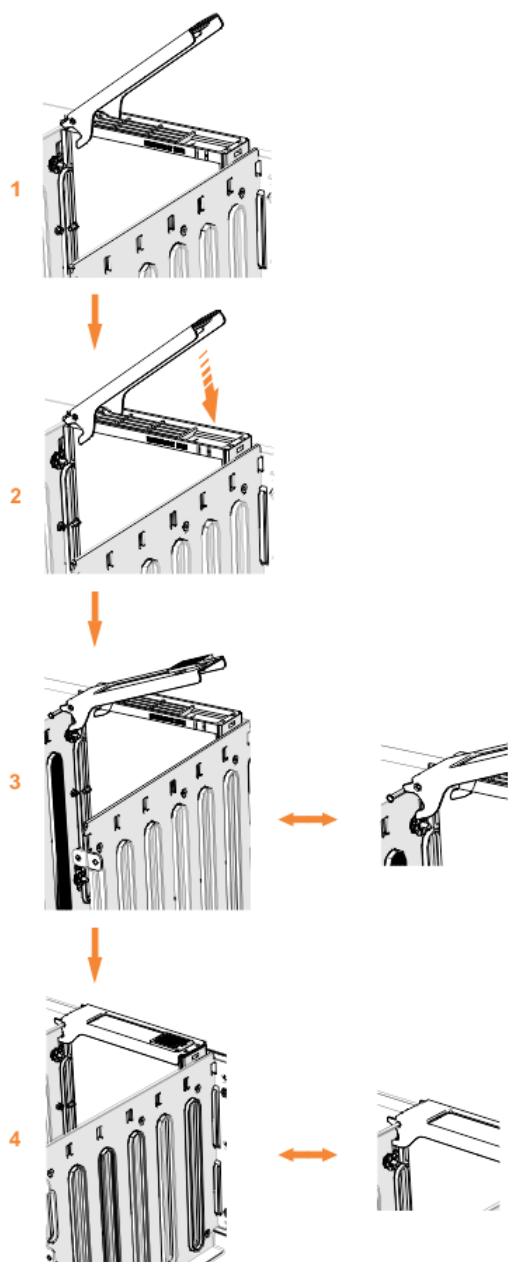

Figure 34. Replace the drive
5. Ensure that the drive handle (1 in Figure 34 on page 53) of the drive assembly is in the open (unlocked) position.
7. Gently push the drive down until it stops, and the bottom of the latch is aligned with the top of the partition. Ensure that the handle is not open more than 45 degrees from the drive carrier. (2 in Figure 34 on page 53).
8. Rotate the handle down to lock the drive assembly into the chassis (3 in Figure 34 on page 53).
10. Ensure that the top toe of the latch is also fully engaged (4 in Figure 34 on page 53).